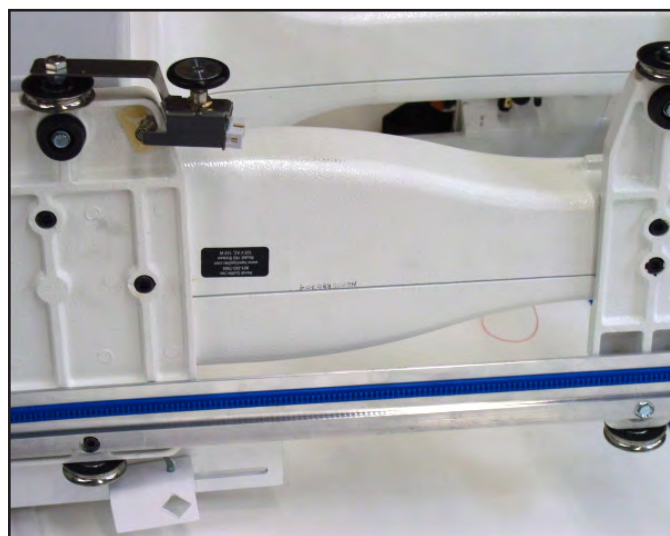

Figure 3.40
1. Place the HQ Sixteen on its side as in **Figure 3.40**. Remove the encoder bracket/wheel mounting bolt using a 7/16" wrench and removing the bolt and bracket that attach the wheel to the rear base plate.